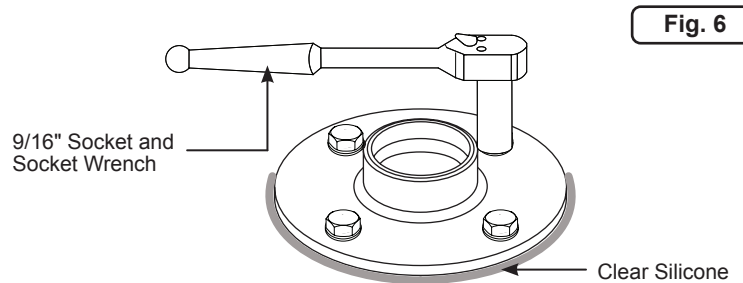

Fig. 6
6. Use a socket wrench and 9/16" socket to tighten the anchor bolts (Figure 6).
8. Apply a thick bead of clear RTV silicone around the bottom bearing plate (Figure 6).